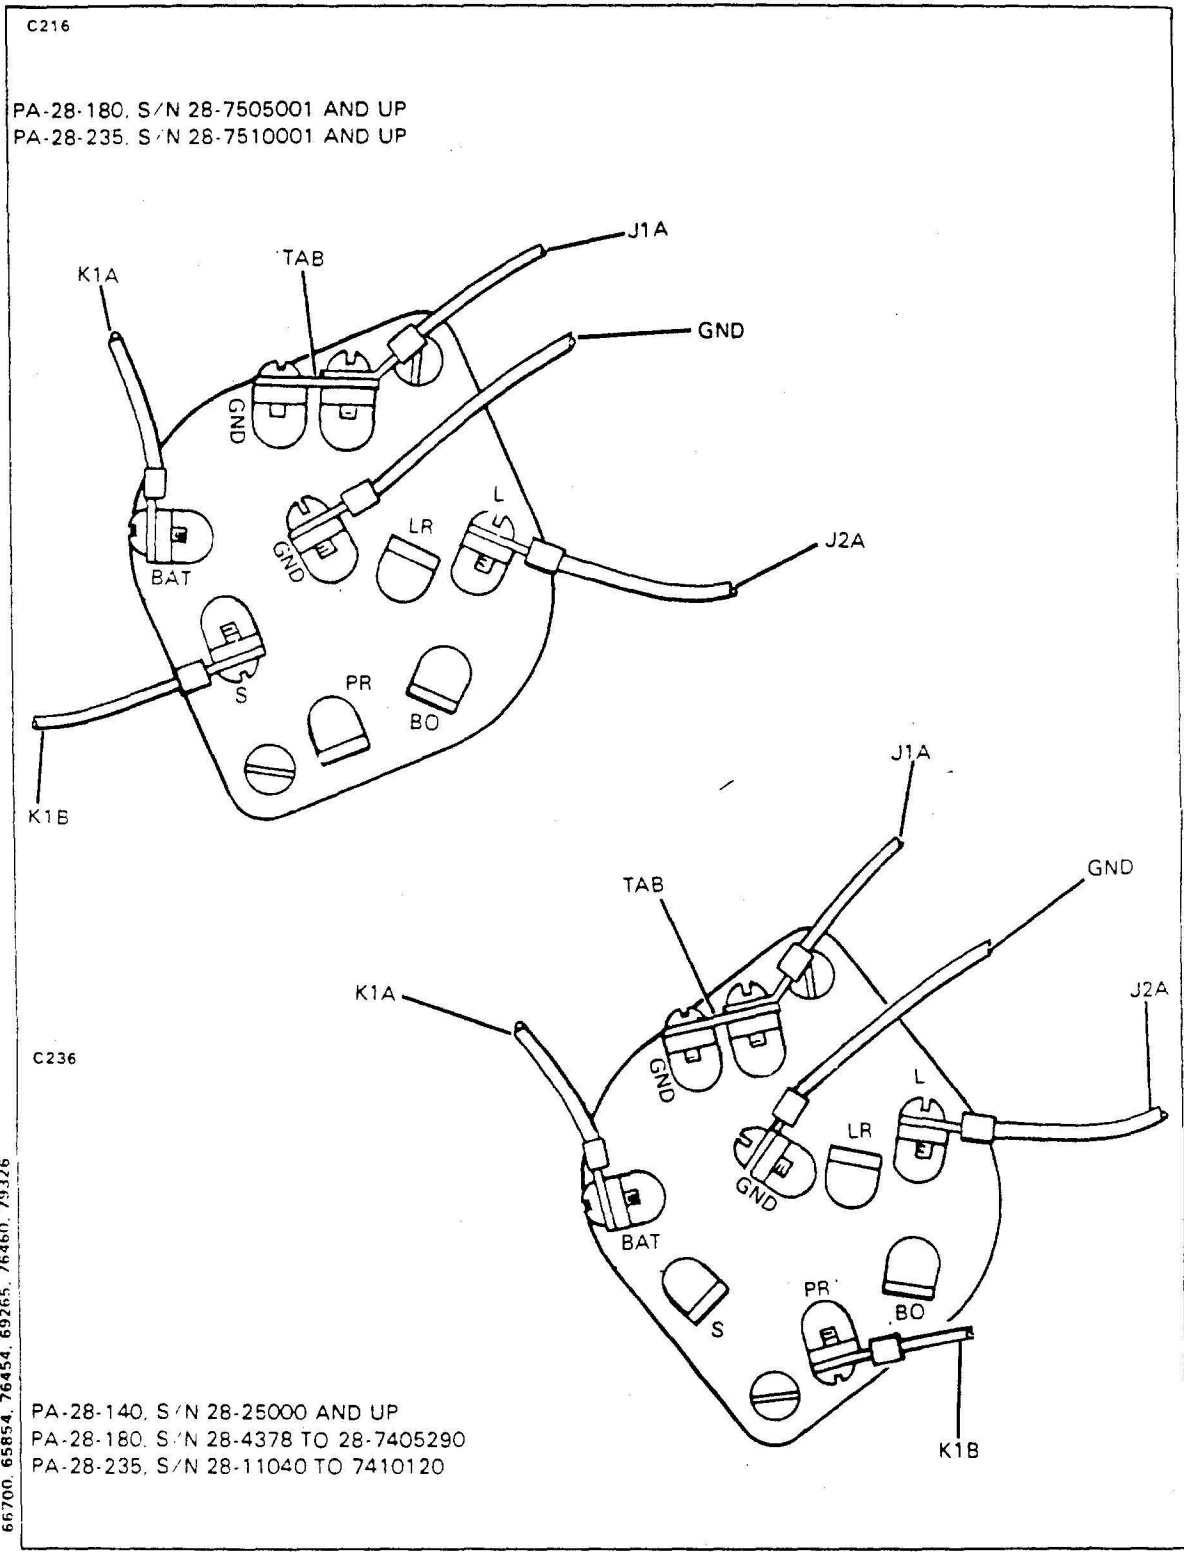

Figure 8-21. Ignition Switch Wiring Positions
8-49. INSTALLATION OF IGNITION SWITCH. (Refer to Figure 8-21.)
- a. Attach wires to the switch as shown in Figure 8-21.